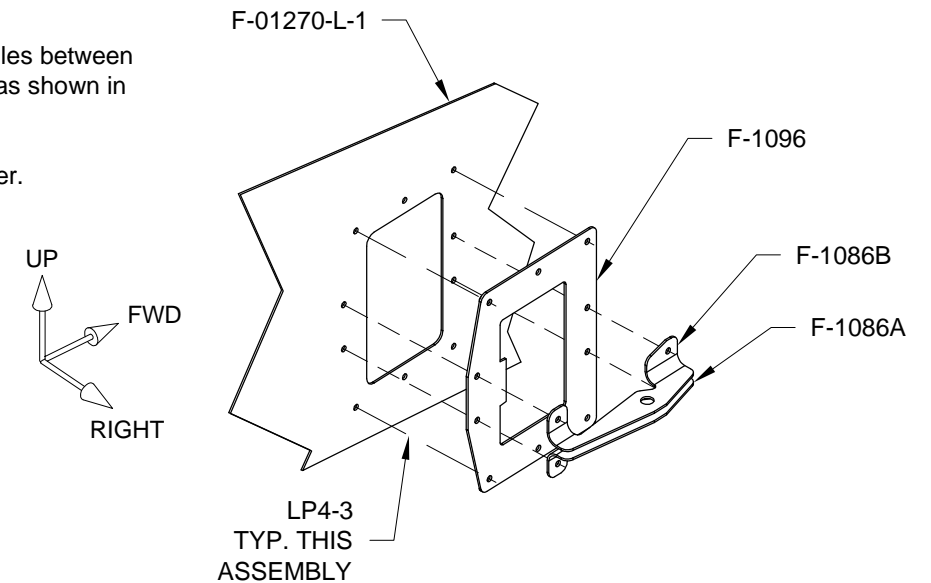

FIGURE 4: ASSEMBLING THE VENT DOUBLER AND BRACKETS
Step 6: Cleco then final-drill #30 all common holes between F-1086A, F-1086B and F-1096 to F-01270-L-1 as shown in Figure 4.